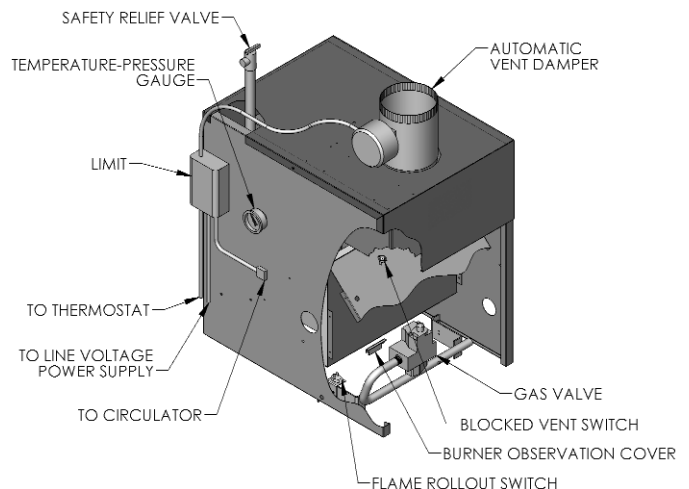

Figure 1: Control Locations
1. **Limit.** See Figure 1. A device which automatically interrupts boiler operation when the water temperature exceeds the set point. Maximum allowable temperature is 240°F (115°C).
2. **Flame Rollout Switch.** See Figure 1. A device which automatically interrupts boiler operation when flames or excessive heat are present in the combustion area. The control is a single use device. If the control is activated to interrupt boiler operation, do not attempt to place boiler in operation. Contact a qualified service agency.
3. **Blocked Vent Switch (Vent Safety Shutoff Switch).** See Figure 1. A device which automatically interrupts boiler operation when there is a blockage in the vent pipe or chimney. The control is a manual reset device. The control is located on the draft hood relief opening. If the control was activated to interrupt boiler operation, do not attempt to place boiler in operation. Contact a qualified service agency.
5. **Gas Valve.** The gas valve monitors pilot flame and regulates gas flow to the burners and pilot. See Figure 1.